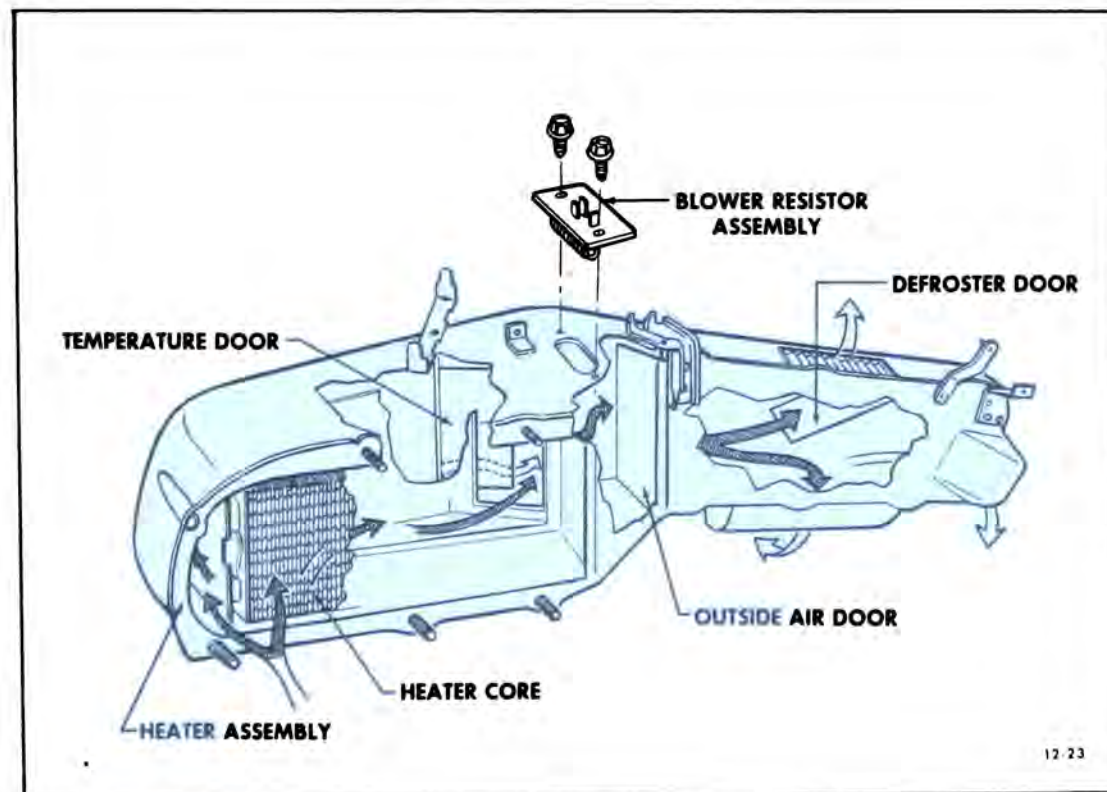

Figure 12-4 Heater System Air Flow
2. Heater Assembly - The heater assembly (see Figure 12-4) houses the heater core and the doors necessary to control mixing and channeling of the air. Air entering the heater assembly divides into two channels: (1) through the heater core and (2) through a by-pass around the heater core. The ratio of the mixture of heated to unheated air is controlled by the temperature door. An outside air inlet door initiates the air flow through the heater assembly. A defroster door controls the amount of air deflected through the defroster outlets. The
7. Remove connector from blower motor resistor (see Figure 12-4).